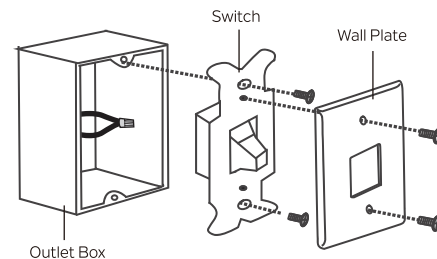

Fig. 17
Step 1. Remove the existing wall plate and the old switch from the wall outlet box. Wire nut the BLACK leads (hot) together and push back inside the outlet box. (Fig. 17)